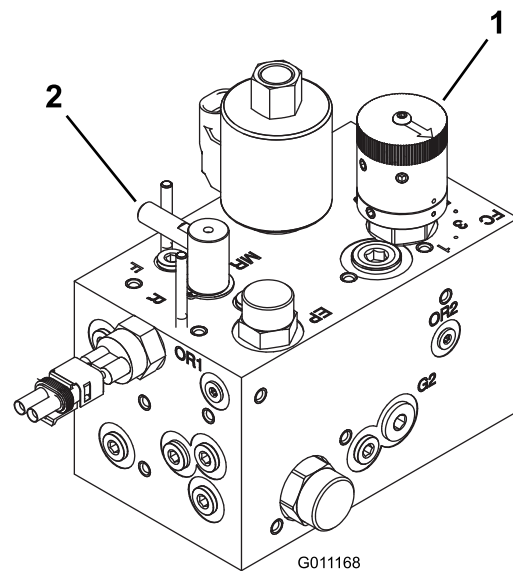

Figure 44
2. Turn the reel speed control knob (Figure 44) to the number setting determined in Step 1.